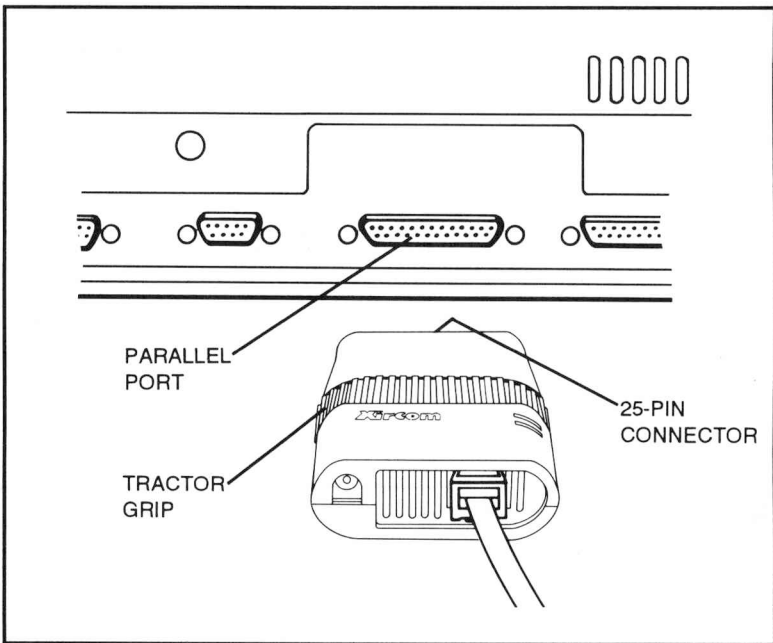

Figure 6. Connecting the Adapter to the Parallel Port on the Computer
2. Rotate the red band ("tractor grip") on the Adapter clockwise until the screws are firmly secured. Refer to Figure 6. When the screws are tight, the band will "click" as you rotate it. Rotate the band counterclockwise to unscrew the screws.